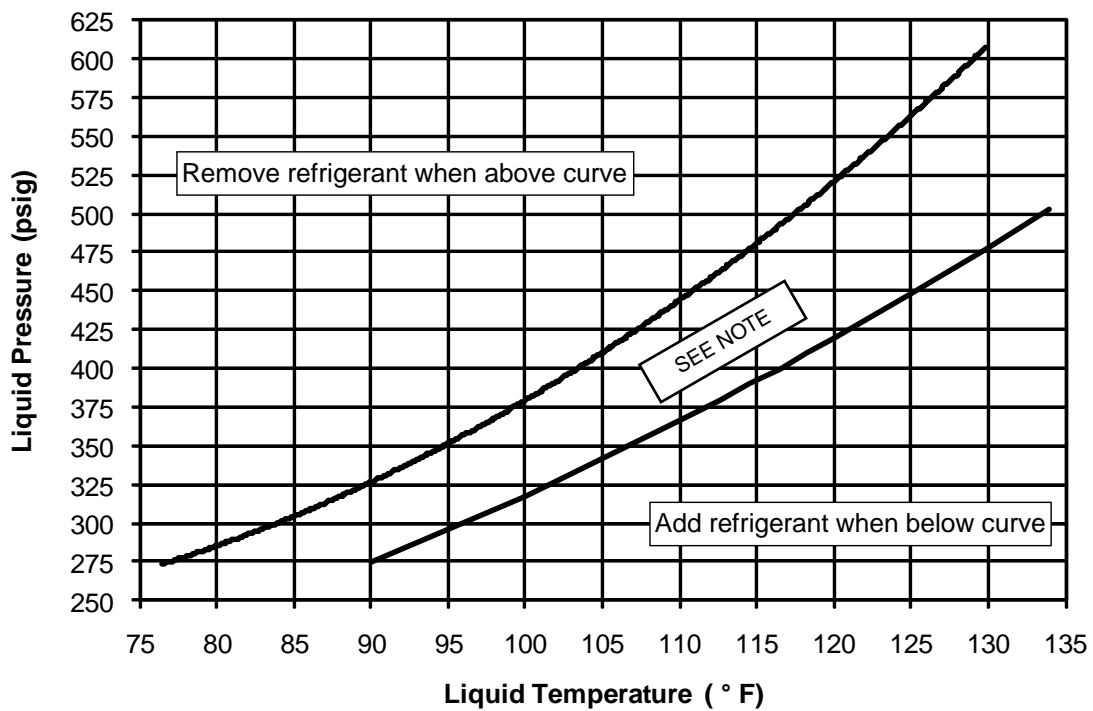

Figure 2. Charging Chart for 2 Ton Units
- The refrigerant charging charts and tables are valid for a variety of indoor, return air conditions and are most influenced by the outdoor ambient temperature, outdoor fan operation and the unit operating voltage. Before using these tables and charts, make sure the unit is in a stable operating mode. As shown in Tables 4 - 7 (pages 8 & 9) and Figures 2 - 7 (pages 10 - 12), the ideal system sub-cooling can vary over the range of operation. Reference the tables to determine the ideal amount of sub-cooling for a given liquid pressure. Units charged to other values will not perform at the rated unit efficiency (EER) or rated Coefficient of Performance (COP) in heating mode.